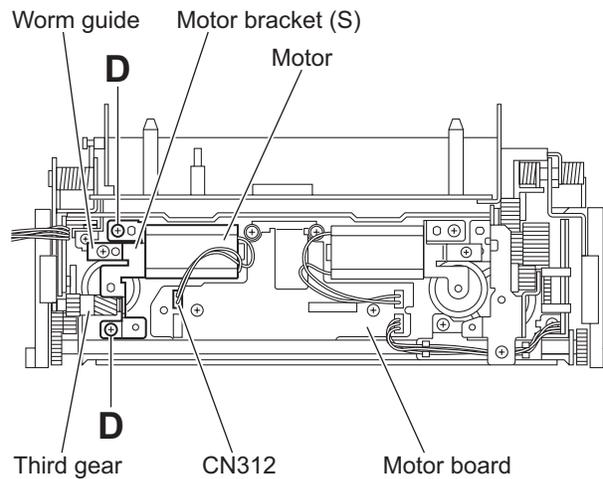

Fig.7
- Disconnect the wire from the connector CN312 on the motor board. (See Fig.7.)
- Remove the two screws **D** attaching the motor bracket (S). (See Fig.7.)
- Take out the motor bracket (S), worm guide, motor and third gear together. (See Fig.7.)